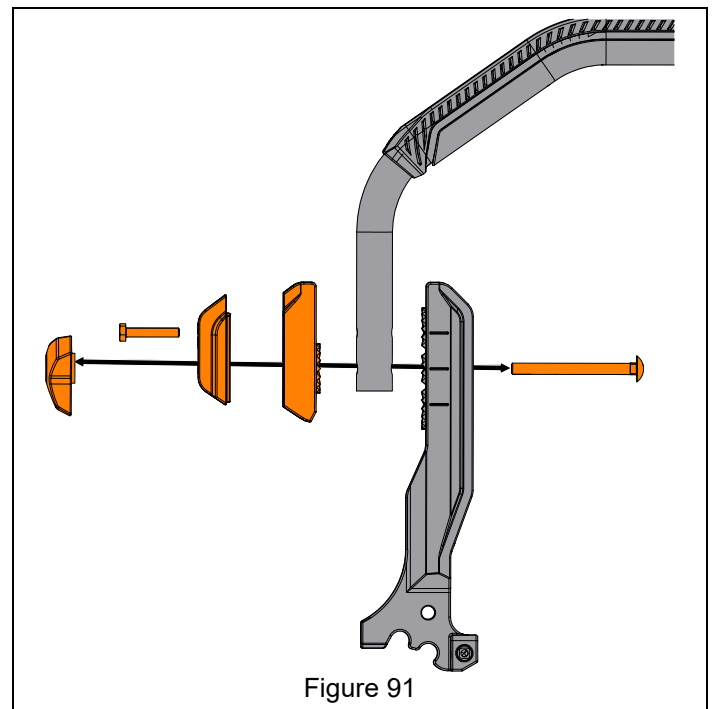

Figure 91
2. Remove one hex bolt and one raised head bolt securing upper control arm to lower control arm. See Figure 91.